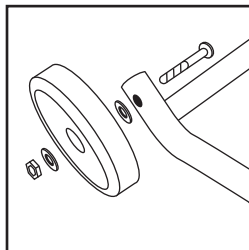

Fig. 11
- Attach the wheels **7** to their service position on component **3** (**Fig. 11**). Do not over tighten the wheels, as this will prevent them from moving freely.